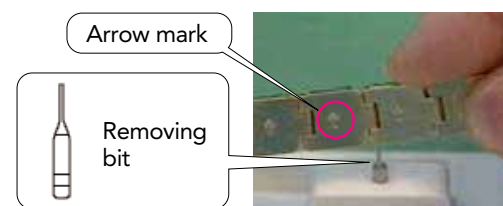

Fig.12
- 1) Using the S-926 bracelet removing bit & pin support, place the bit against the hole for the pin and press the bracelet down in the opposite direction of the arrow mark on the link. (Fig.12)